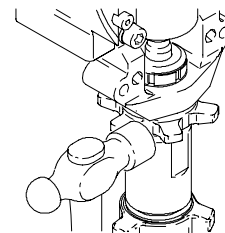

Fig. 16 7673B
3. Fig. 16. Screw jam nut down onto pump until stops. Screw pump up into bearing housing until it is stopped by jam nut. Back off pump and jam nut to align pump outlet to back. Tighten jam nut by hand, then tap 1/8 to 1/4 turn with a 20 oz (maximum) hammer to approximately 75 ± 5 ft-lb (102 N-m).